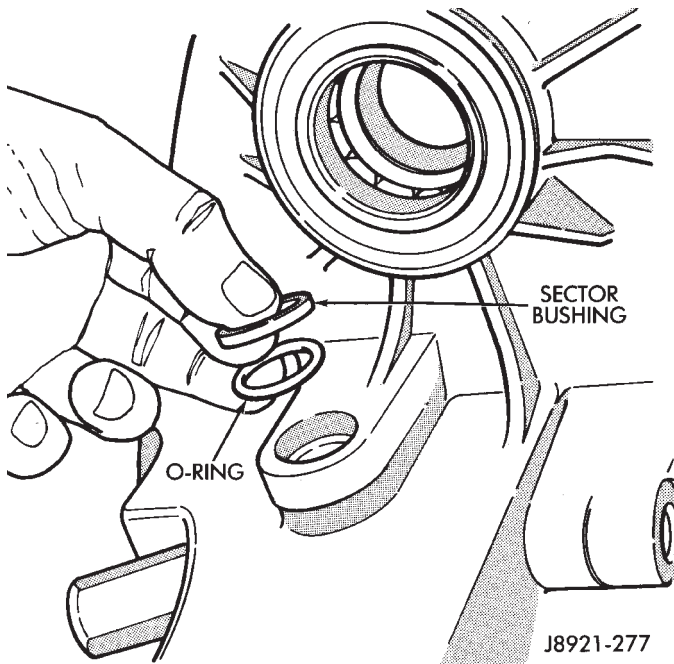

Fig. 56 Sector O-Ring And Bushing Installation
- (1) Install new sector shaft O-ring and bushing (Fig. 56).